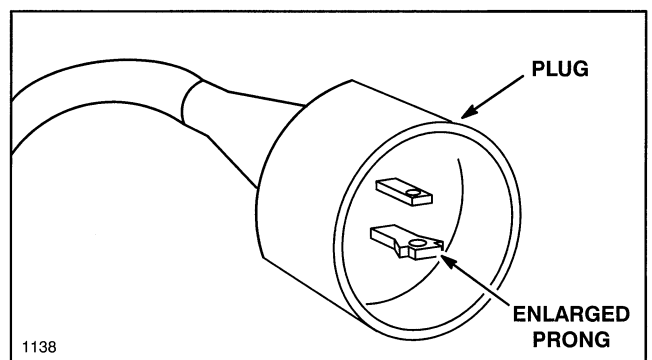

Figure 4
See Figures 4 & 5 for proper cord connection.
1. Your trimmer has a polarized plug. This means one prong in the plug is larger than the other (Fig. 4). When connecting the end of a suitable extension cord to the trimmer plug, be sure to insert the enlarged prong into the wide slot in the extension cord end.